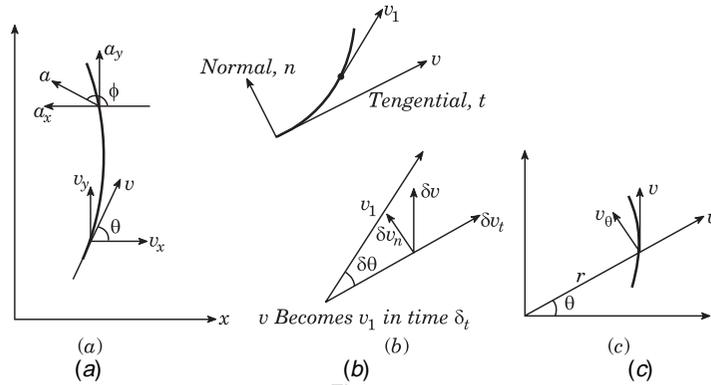

Fig. 1.4
- (i) Method I describes velocity and acceleration of a point by x and y components along two axes at right angles Fig. 1.4 (a) ;
- (ii) Method II describes velocity and acceleration of a point by normal and tangential components at the point Fig. 1.4 (b) ;
- (iii) Method III describes velocity and acceleration of a point in polar coordinates r and θ , Fig. 1.4 (c) ;